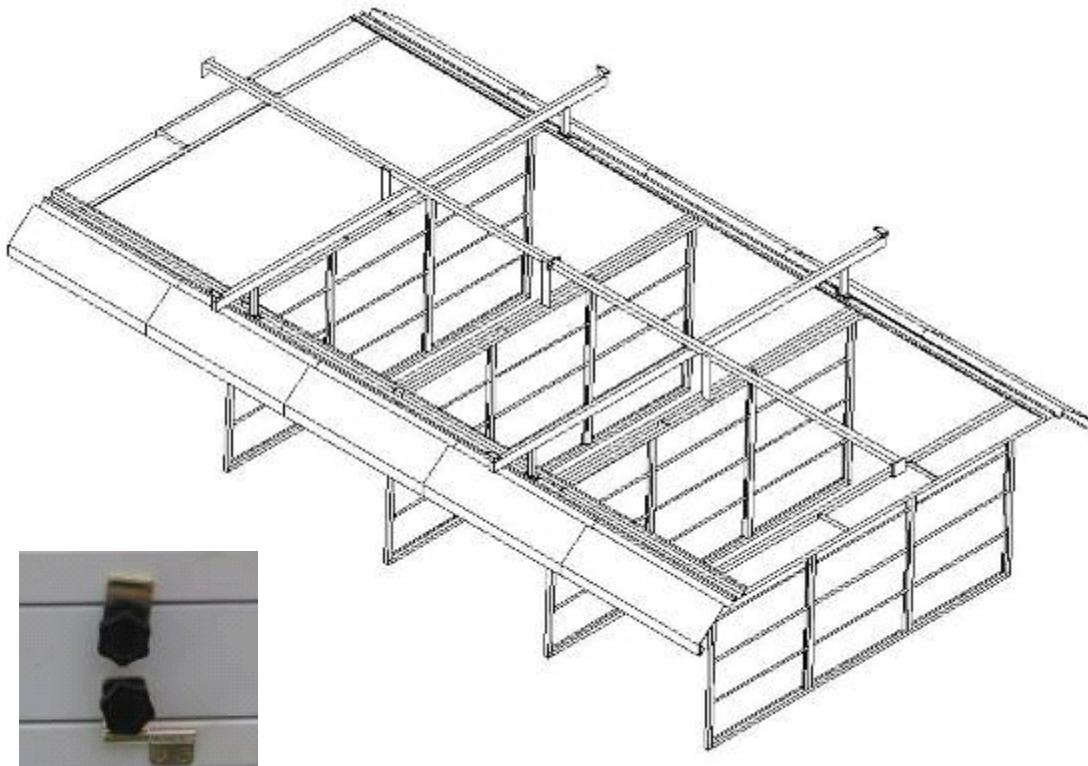

Fig. 3.17
5. Filter frame installation shown in Fig.3.17. Fix the filter on the frame with frame slot fir st,then installate the filter frame with the hinge.